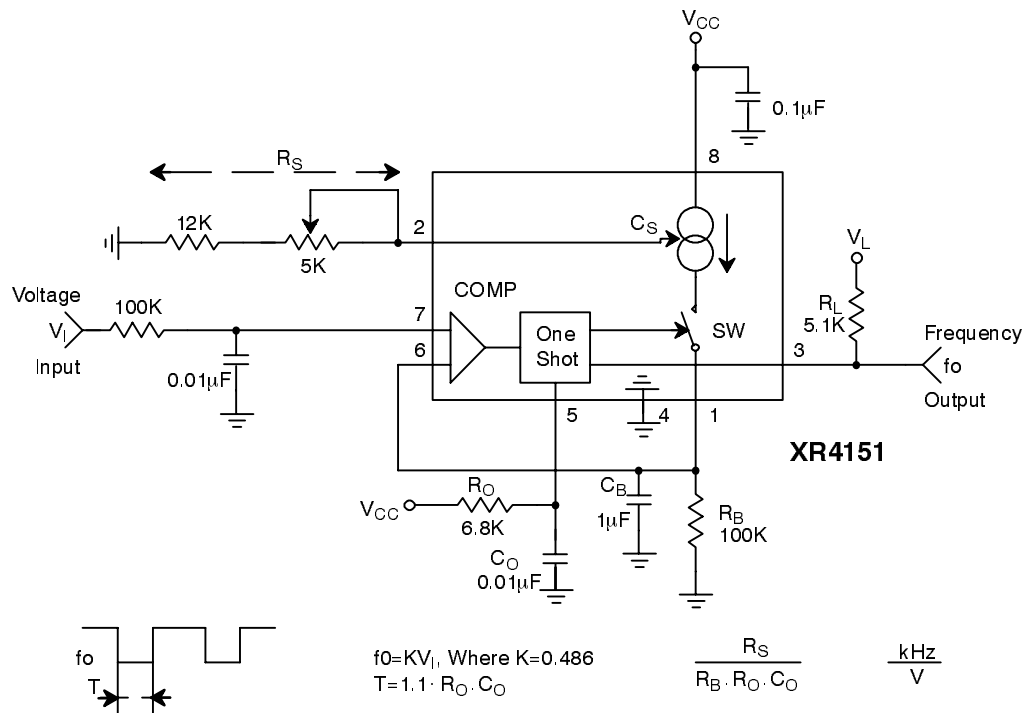
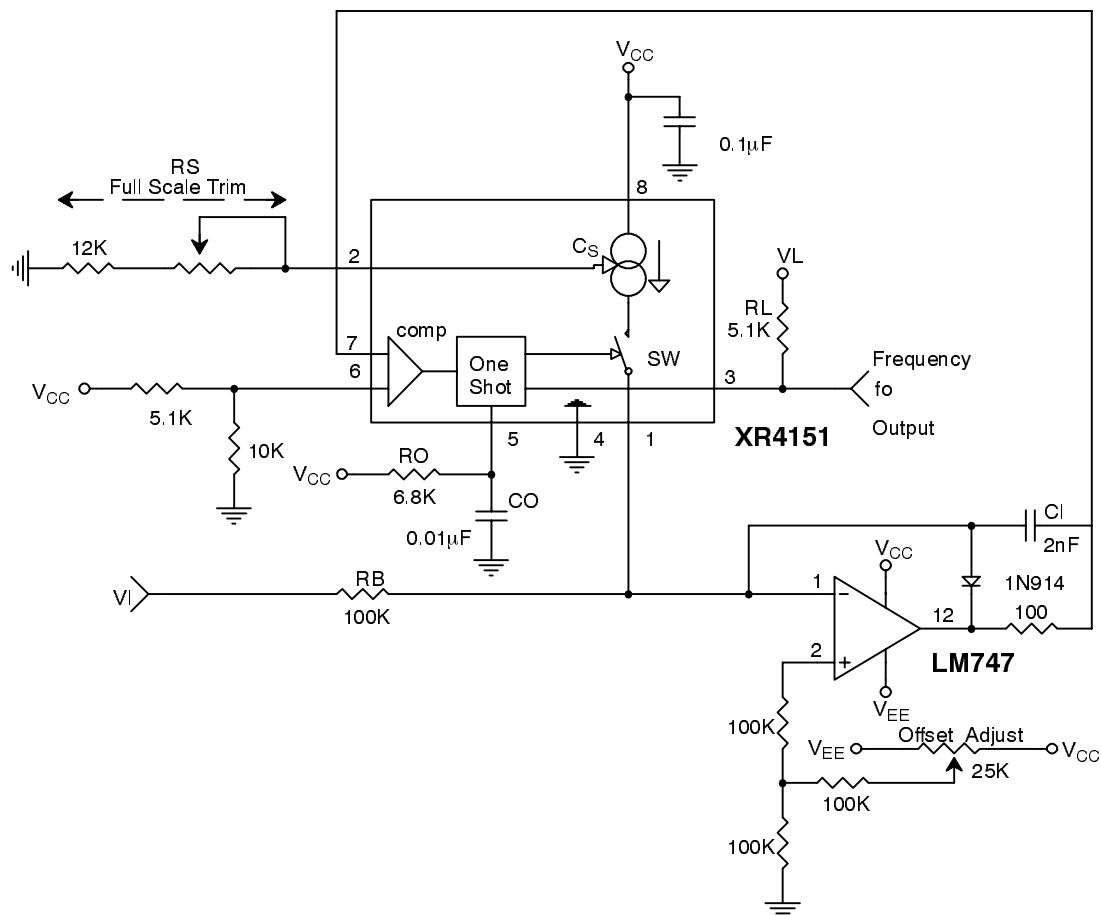

Figure 2. Voltage-to-Frequency Converter
Figure 3. Precision Voltage to Frequency Converter
In this application, the XR4151 functions as a stand alone voltage-to-frequency converter operating on a single positive power supply. Refer to the functional block diagram and *Figure 2*, the circuit connection for single supply voltage-to-frequency conversion. The XR-4151 contains a voltage comparator, a one-shot, and
Figure 2 shows the simplest type of VFC that can be made with the XR4151. The input voltage range is from 0 to +10V, and the output frequency is from 0 to 10kHz. The full scale frequency can be tuned by adjusting R_S , the output current set resistor. This circuit has the advantage of being simple and low in cost, but it suffers from inaccuracy due to a number of error sources. Linearity error is typically 1%. A frequency offset will also be
introduced by the input comparator offset voltage. Also, response time for this circuit is limited by the passive integration network $R_B C_B$. For the component values shown in Figure 2, response time for a step change input from 0 to +10V will be 135msec. For applications which require fast response time and high accuracy, use the circuit of Figure 3.
In this application (*Figure 3*) the XR4151 is used with an operational amplifier integrator to provide typical linearity of 0.05% over the range of 0 to -10V. Offset is adjustable to zero. Unlike many VFC designs which lose linearity below 10mV, this circuit retains linearity over the full range of input voltage, all the way to 0V.
The operational amplifier integrator improves linearity of this circuit over that of *Figure 2* by holding the output of the source, Pin 1, at a constant 0V. Therefore, the linearity
1. Set $R_S = 14k\Omega$ or use a 12K resistor and 5K pot as shown in the figures. (The only exception to this is *Figure 3*).
3. a) For the circuit of *Figure 2* make $C_B = 10^{-2} [1/f_0]$ Farads.
4. a) For the circuit of *Figure 3* keep the values of R_B as shown and use an input attenuator to give the desired full scale input voltage.
b) For the precision mode circuit of *Figure 3*, set $R_B = V_{IO}/100\mu A$ where V_{IO} is the full scale input voltage.